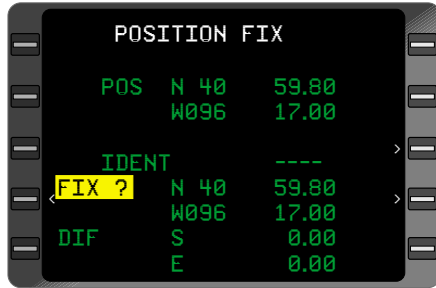

Figure 3-177
- 2. Line Select Key - DEPRESS ONCE to place the cursor over the **FIX** field. The field will display **FIX?** (Figure 3-177)